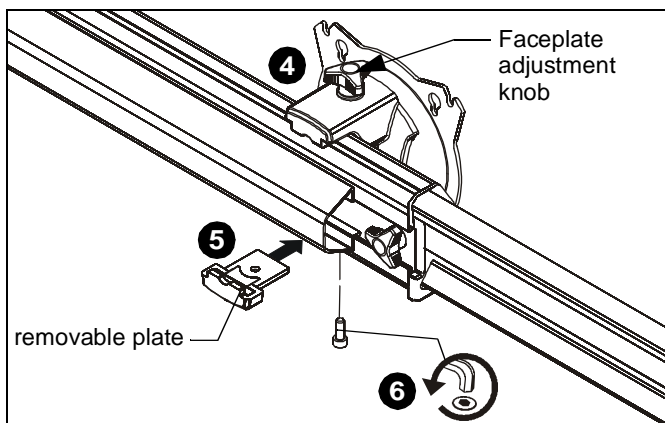

Figure 22
NOTE: Be sure the faceplate adjustment knob is on top when reinstalling the faceplate assembly. (See Figure 22)
NOTE: Faceplate assemblies may be reattached on the fixed part of the arm. (See Figure 22)
4. Place faceplate assembly on array arm at desired mounting position. (See Figure 22)
5. Slide removable plate back into slot at bottom of faceplate assembly. (See Figure 22)
6. Reinstall hex head bolt removed in Step 1 to secure faceplate assembly to array arm. (See Figure 22)